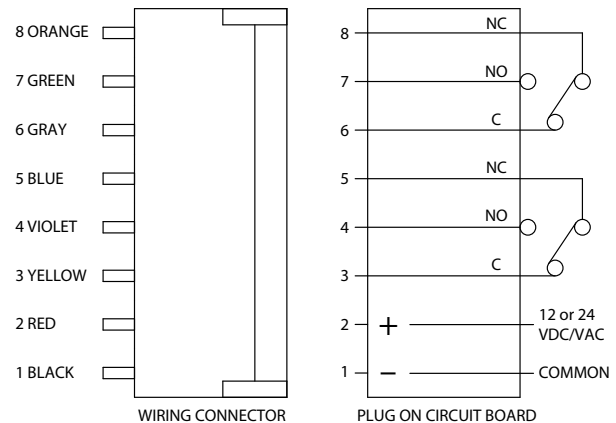

Fig. 2 Connector to Plug Orientation (Default Switch Settings)
1. Connect the wiring connector (provided) to the wire plug on the circuit board as shown in Fig. 2.